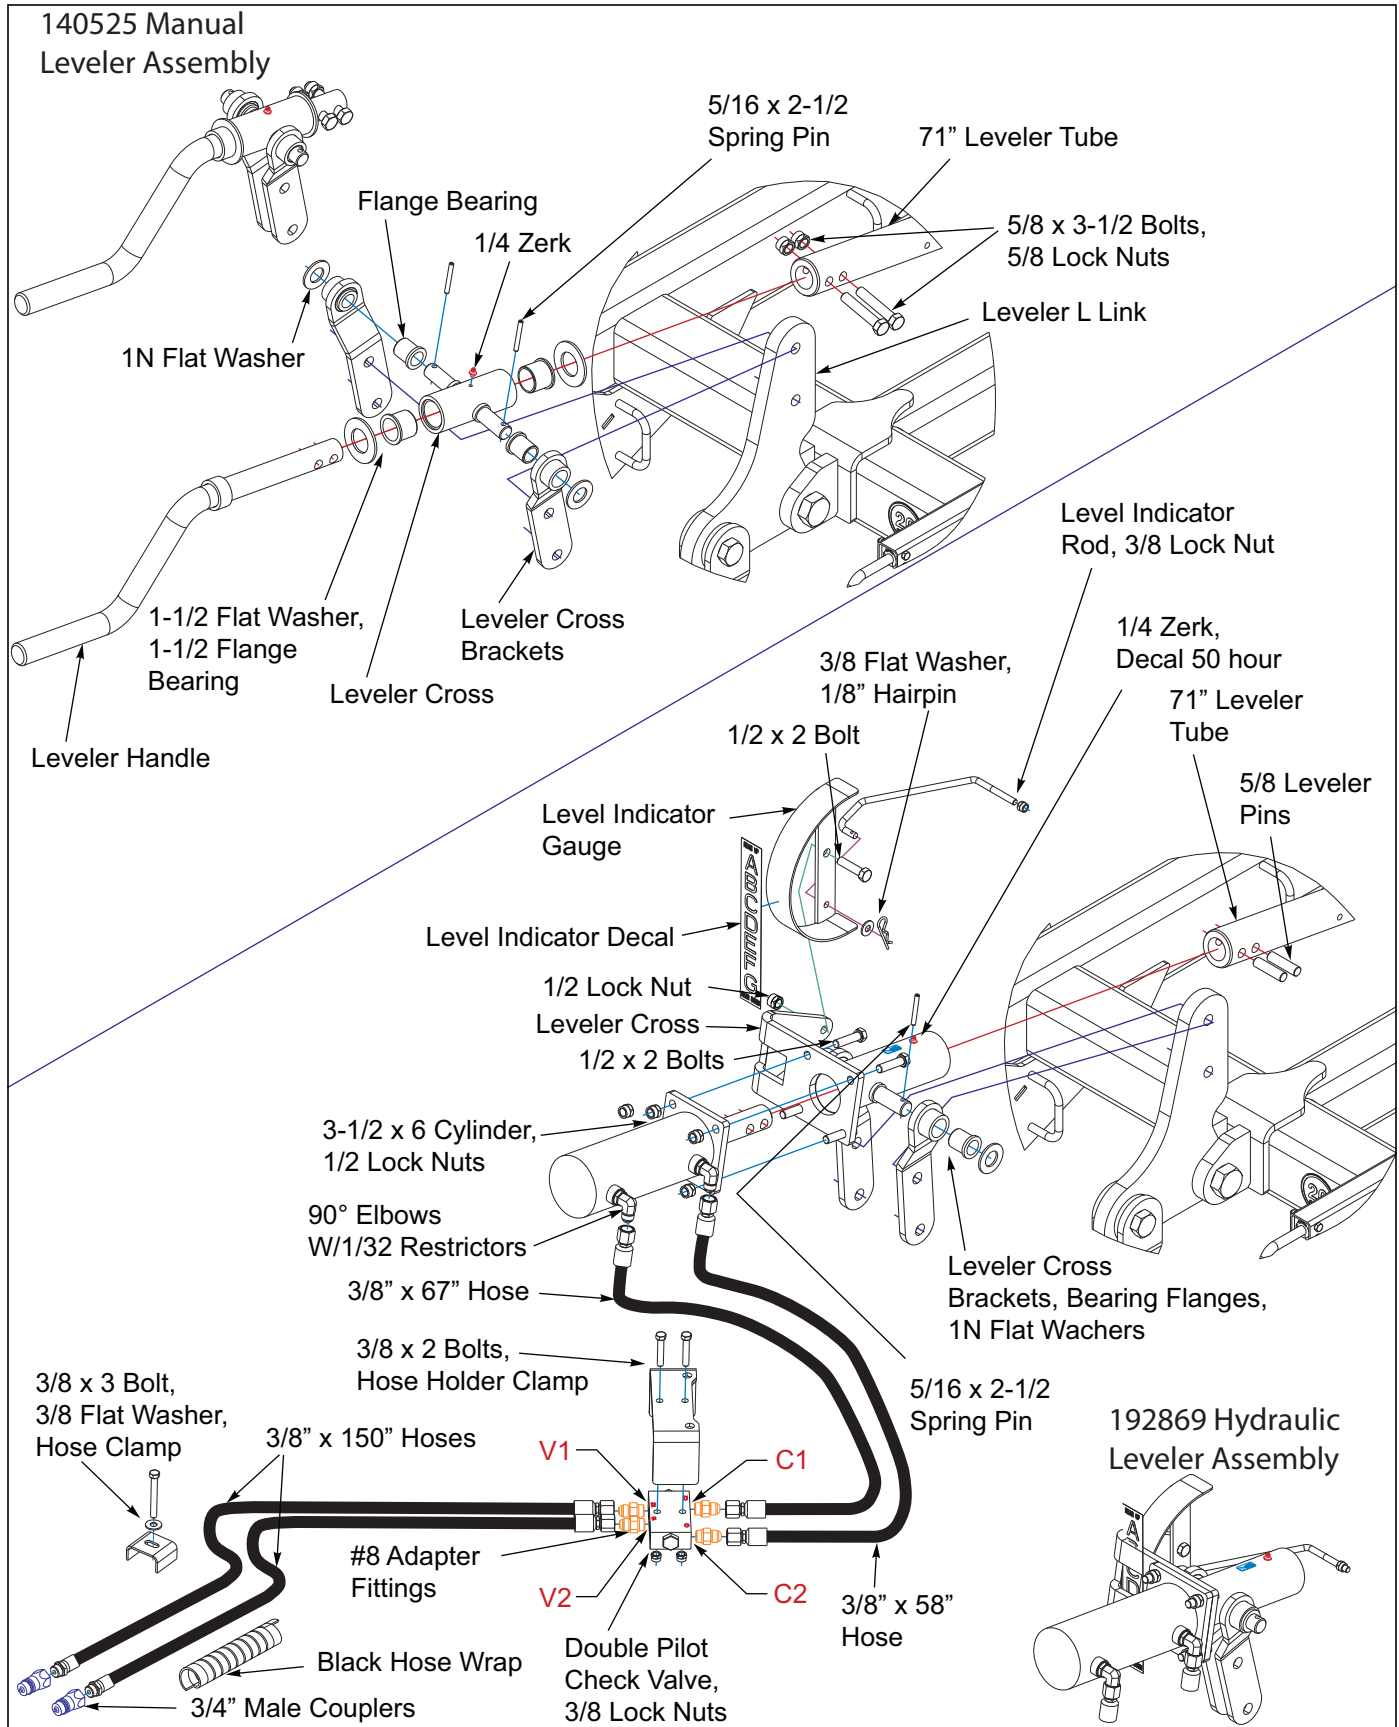

Figure 3-5: Manual/Hydraulic Leveler Installation (Before 01-01-2024)
2. Install the manual leveler handle assembly into the front end of the leveler tube and fasten with two 5/8 x 3-1/2 bolts and 5/8 lock nuts See Figure 3-5. Insert a flange bearing into the flat side of each leveler cross bracket. Slide the brackets over each side of the manual leveler cross and secure with 1N flat washers and 5/16 x 2-1/2 spring pins.
1. Thread a 1-1/2 nut onto the leveler screw assembly See Figure 3-5. Initially leave approximately 3" of threads visible between the 1-1/2 nut and the leveler spring nut. Further adjustment may be required.
3. Slide the leveler cross over the front end of the leveler tube See Figure 3-5.
14. Install (4) #8 adapter fittings into each port of check valve See Figure 3-5.
18. Wrap hydraulic leveler hoses with black hose wrap See Figure 3-5.